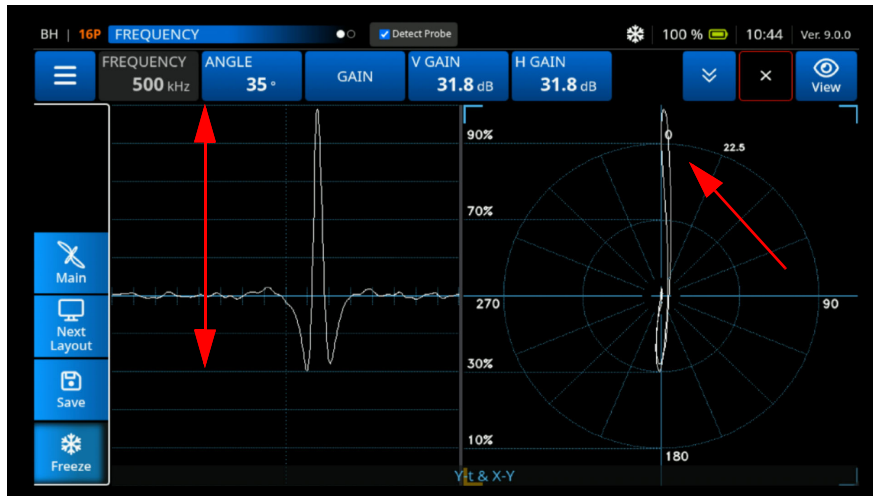

Figure 5-8 Adjust Angle and Gain
5. Using the **Angle** and **Gain** settings, adjust the EDM notch signal to reach a vertical phase on the **XY** plan and **100% FSH** on the **Y(t)** view (See Figure 5-8 on page 197).